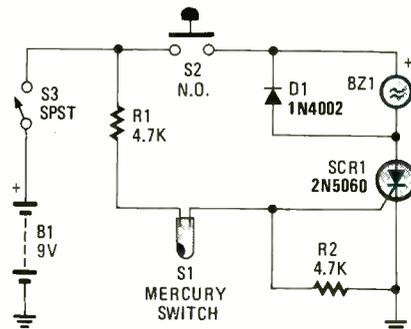

Fig. 5. The Instrument Alarm is nothing more than a simple tilt switch, whose operation is wholly dependent upon S1 (a mercury switch).
**Instrument Alarm.** Like most electronics enthusiasts, I have collected lots of test equipment, and when I realized how much money I had invested in this stuff, it knocked me back! Then I wondered how I'd react if it got stolen. So I came up with a circuit (see Fig. 5) that's small enough to fit into almost any empty space in a small piece of test equipment. You just need a small hole for a miniature push-to-open switch (S2) and a few holes at the buzzer location to allow more sound to escape. And if your equipment uses a nine-volt battery, you can derive power for the alarm from it.